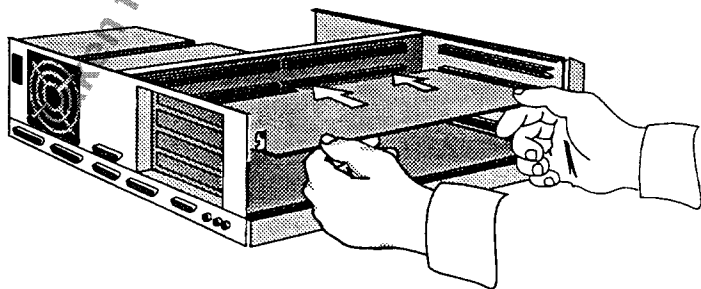

Figure 2.8 - Installing IOExtender
3. Align the IOExtender board with the plastic slot guide at the front of the expansion slot. Take care that the board's external connectors extend through the correct expansion slot opening in the Amiga's rear panel (see either Figure 2.8 or 2.9).